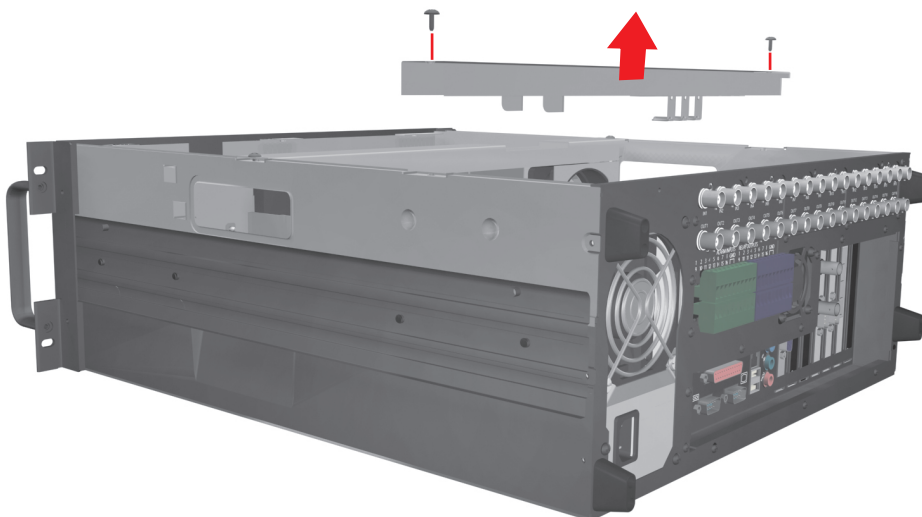

Figure 7. Removing Rear Cross-Brace
1. Using a Phillips-head screwdriver, remove the two flat-head screws that secure the rear cross-brace. Refer to Figure 7.